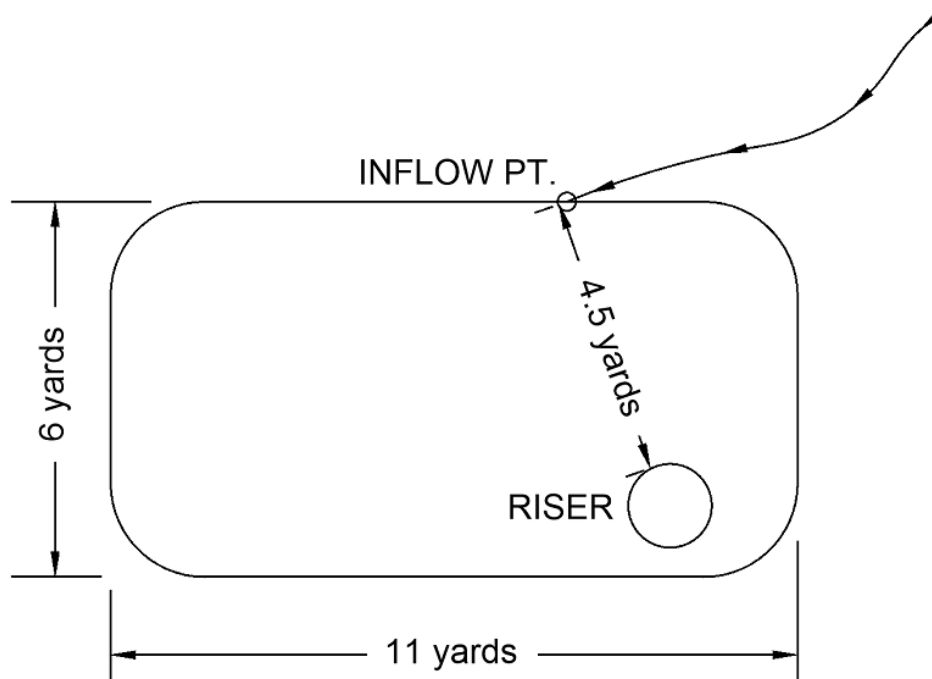
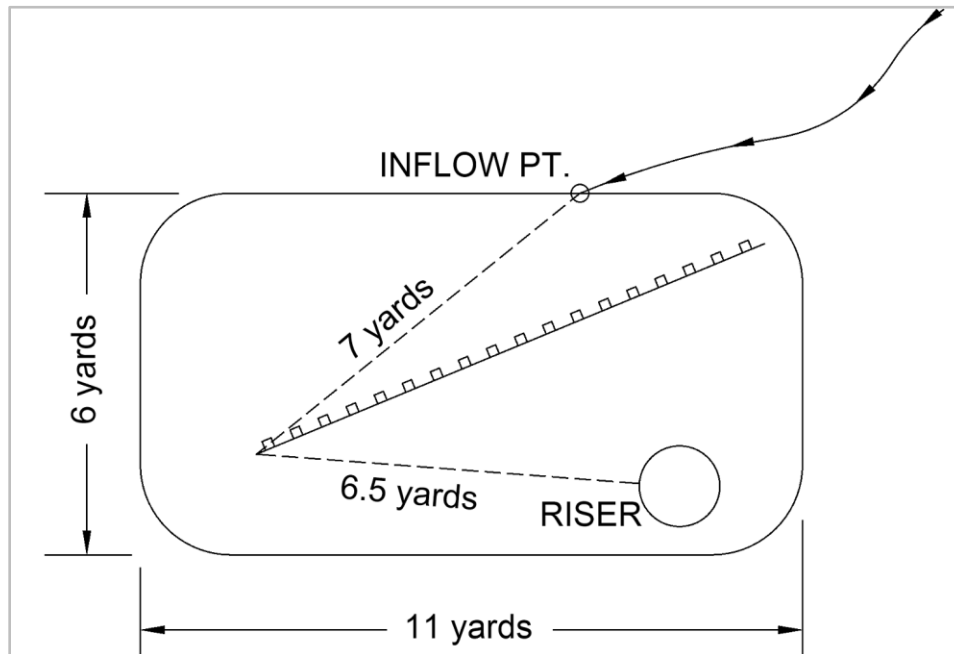

Figure 8-4. Sediment Basin for Baffle Determination
Figure 8-5. Sediment Basin with Baffles
5. Use the sediment basin drawings shown in Figure 8-4 and Figure 8-5 to answer the following questions.
5a. Determine if the basin in Figure 8-4 requires baffles.
5b. Baffles were added to the sediment basin. Are they sufficient as shown in Figure 8-5?